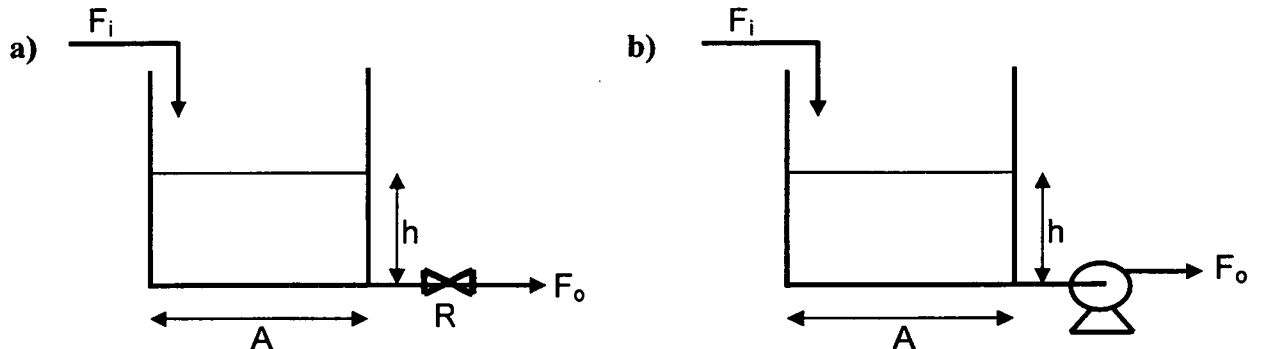

Figure 4. a) Tank with outlet flow rate proportional to the tank liquid level, b) Tank with positive-displacement pump on outlet flow.
The liquid level in a tank is to be controlled with a P-controller. The tank is shown in Figure 4 a).
- i) Set up the total mass balance for the tank shown in Figure 4 a) and list your assumptions.
- iv) It is suggested to install a positive displacement pump on the outlet flow rate instead of having a controller. The new tank is shown in Figure 4 b).